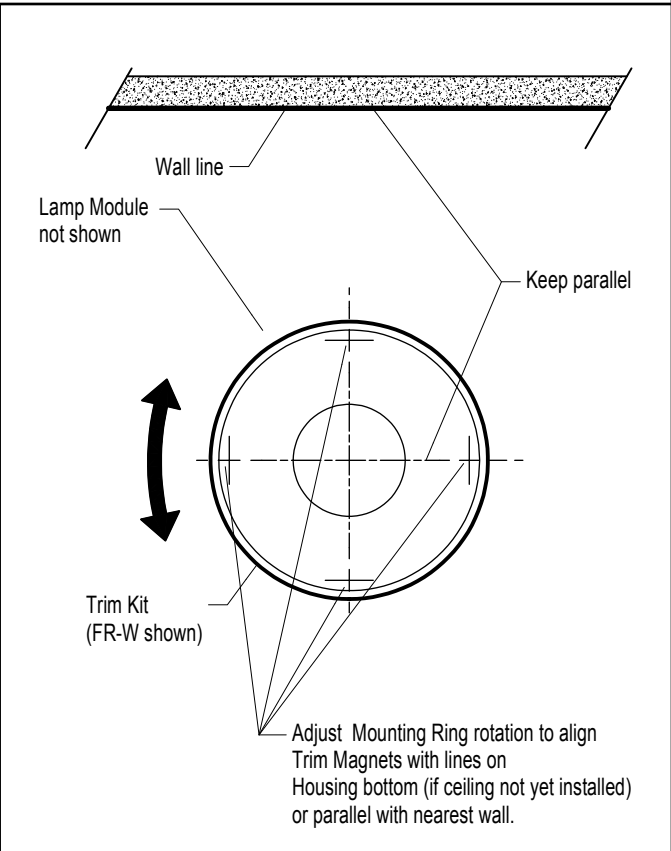

FIG 4.2 Trim Kit Alignment (Plan view shown)
STEP 9 Trim Magnets should always be oriented in line with housing (or nearest wall). After locking Trim height, loosen 3x Mounting Ring Set Screws slightly & rotate Mounting Ring so Trim magnets are oriented inline with nearest wall or housing lines as shown in FIG 4.2.